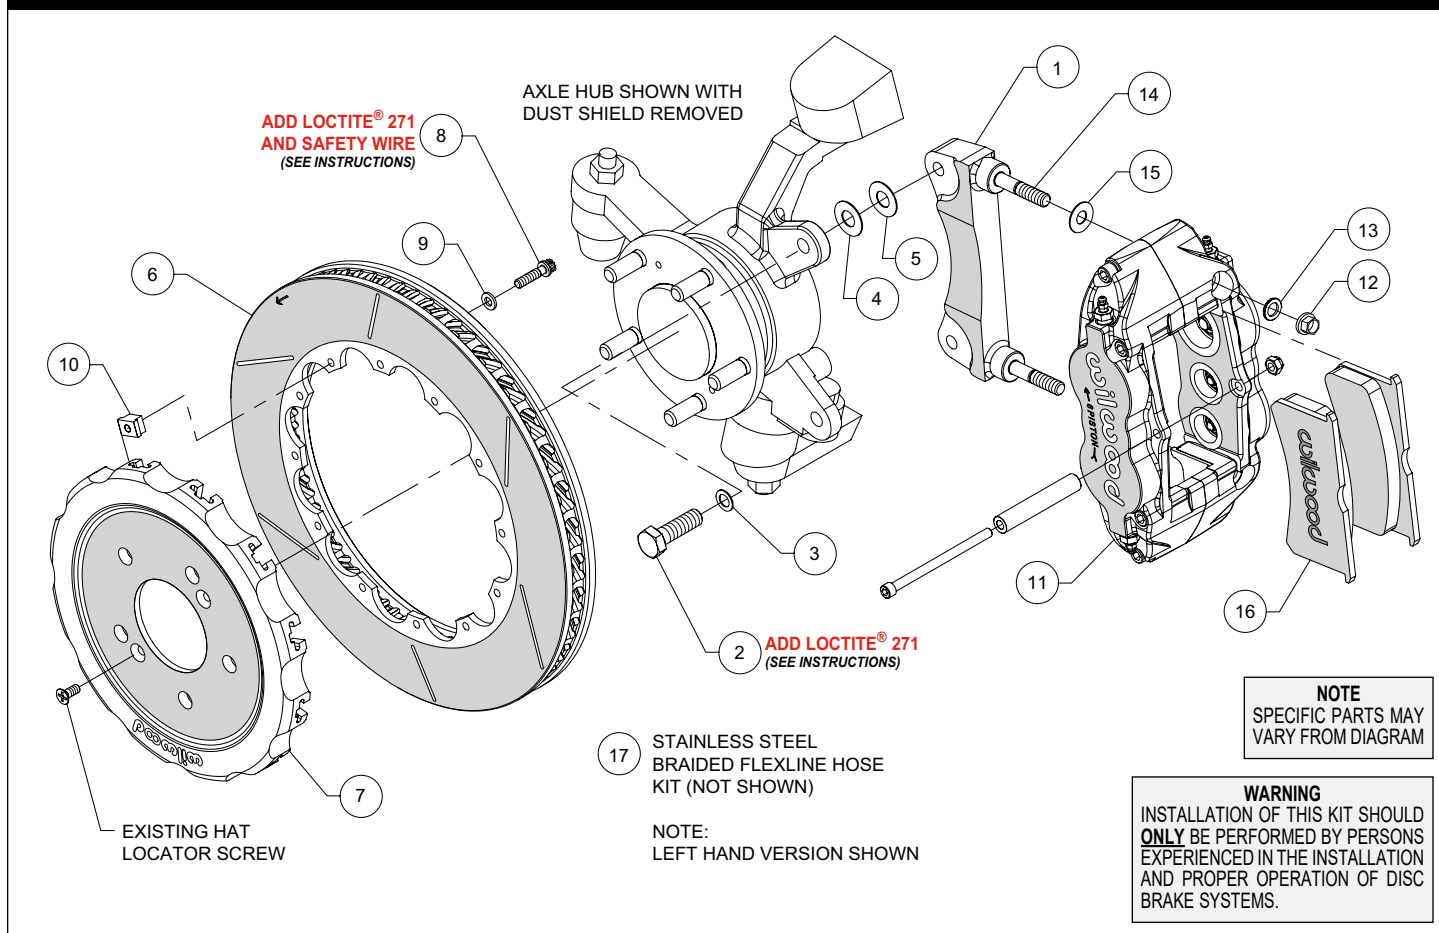
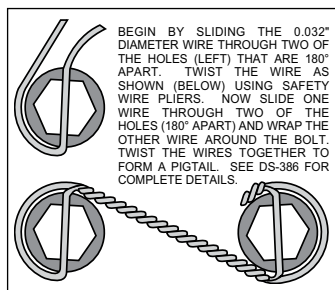

Figure 1. Typical Installation Configuration
Figure 3. Safety Wire Diagram
NOTE: Numbers in parenthesis refer to the parts list and Figure 1 on the preceding pages.
- The caliper mount bracket (1) should initially be installed with clean, dry threads on the mounting bolts. Orient the bracket, as shown in Figure 1 and Photo 1, and install using bolts (2) and washers (3). Initially place one .033" thick shim (4) on each bolt between the bracket and upright, Figure 1. Temporarily tighten the mounting bolts. **NOTE:** The bracket must fit squarely against the mount bosses on the upright. Inspect for interference from casting irregularities, machining ridges, burrs, etc. Later, after the caliper alignment has been checked, the mount bolts will be secured using red *Loctite*® 271.
- Orient the rotor (6) and the hat (7) as shown in Figure 1 and Photo 2. Attach rotor to hat using bolts (8), washers (9), and t-nuts (10). Follow additional instructions included with the bolt kit. Apply red *Loctite*® 271 to the bolt threads and torque to 120 in-lb using a criss-cross pattern. Safety wire bolts using standard 0.032 inch diameter stainless steel safety wire as shown in Figure 3. Please refer to Wilwood's data sheet DS-386 (available at www.wilwood.com/Pdf/DataSheets/ds386.pdf) for complete safety wire installation instructions.
- NOTE:** This kit contains distinct right and left hand calipers that must be mounted in a specific direction, as described below. Initially place one .035" thick shim (15) on each stud (14) between the caliper and the bracket, as shown in Figure 1 and Photo 4. Mount the caliper (11) onto the bracket (1) using lock nuts (12) and washers (13), Figure 1. Ensure that the caliper is mounted so the largest pistons are at the rotor exit end of the caliper, in relation to the direction of rotor rotation. Temporarily tighten the lock nuts and view the rotor through the top opening of the caliper. The rotor should be centered in the caliper, Photo 5. If not, adjust by adding or subtracting shims (4 and/or 5) between the bracket and the upright. Always use the same amount of shims on each of the two mounting bolts. Once the caliper alignment is correct, remove the bracket mounting bolts (2) one at a time, apply red *Loctite*® 271 to the threads, and torque to 60 ft-lbs.